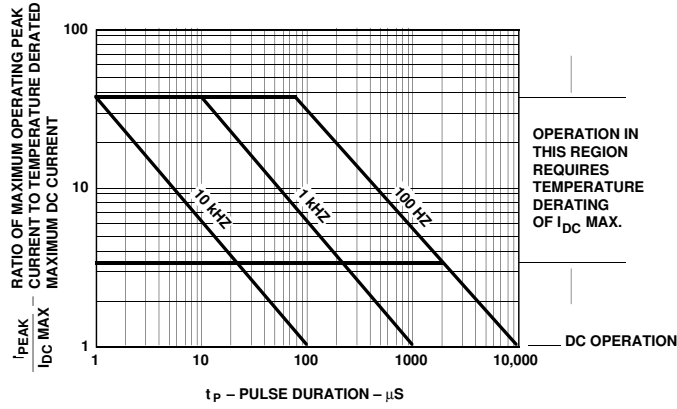

Figure 7. Maximum Allowed Peak Current vs. Pulse Duration - HER, Yellow.
- See Figure 7 to establish pulsed conditions.